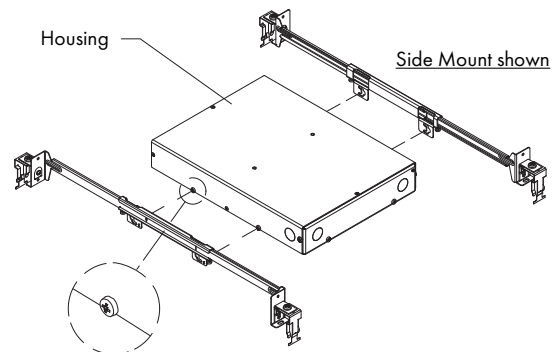

FIG 5.2 Attach Hanger Bracket Assemblies to Housing
STEP 2 Attach Bar Hanger Brackets to Housing in hole position 1 or 2 to accommodate Trim Model & ceiling tile thickness (refer to **Page 4 - Table 4.1**) - **FIG. 5.2**.